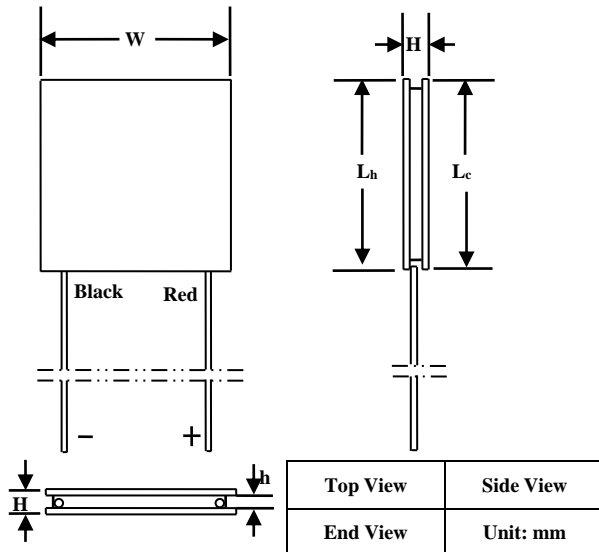
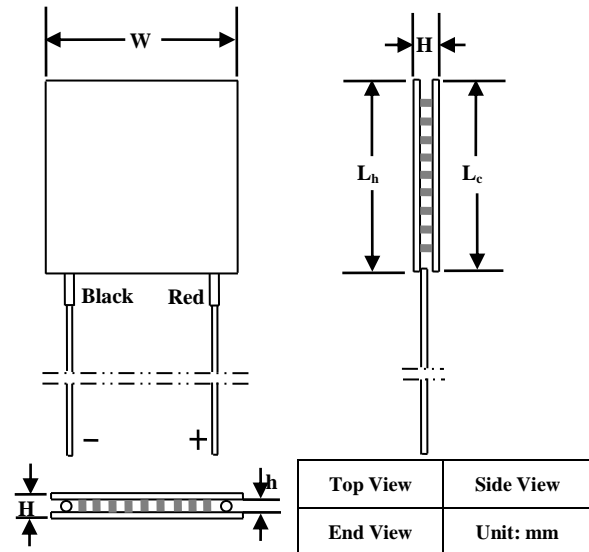

Figure 10. Mechanical Dimensions of Sealed ATE1-49
Figure 11. Mechanical Dimensions of Non-sealed ATE1-49
The ATE1-49 TECs come with 2 insulated lead wires. The positive wire is in red color, and the negative wire is of black. The mechanical dimensions are shown in Figure 10, Figure 11 and Table 1.
**Note:** As Figure 10 shows, when the red lead wire is on the right, then the top surface is the cold side of the TEC.